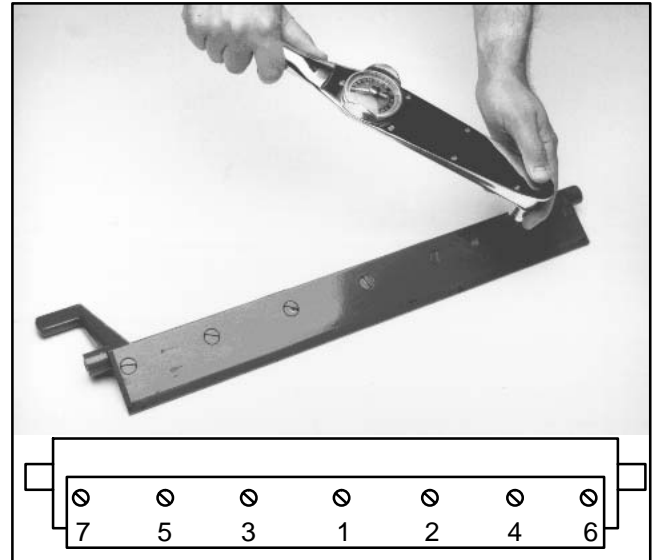

Figure 34
C. Bedknife screws must bottom out on the bedknife, not the bedbar. Tighten screws to a torque of 180 to 200 in-lb (20.3 to 22.6 N-m); work from the center toward each end of the bedbar (Fig. 34)